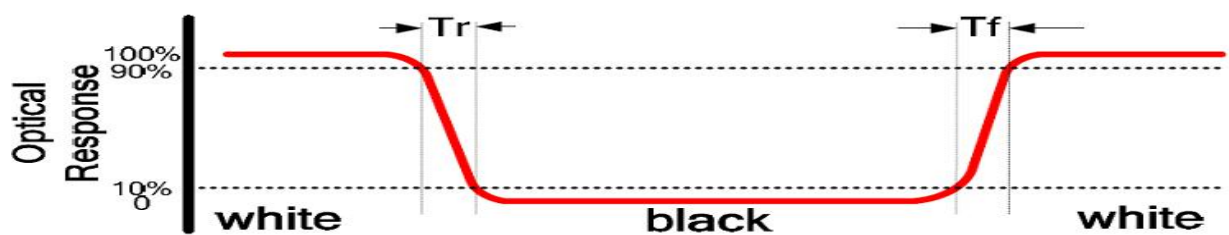

FIG2. Measuring method for Contrast ratio,surface luminance,Luminance uniformity,CIE(X,Y)chromaticity.
Note2.contrast Ratio(CR) is defined mathematically by the following formula ,For more information see FIG2.
Note5. Surface luminance is the LCD surface luminance with all white pixels,For more information see FIG2.
Note6.CIE(X,Y)chromaticity is the Center point value.For more information see FIG2.